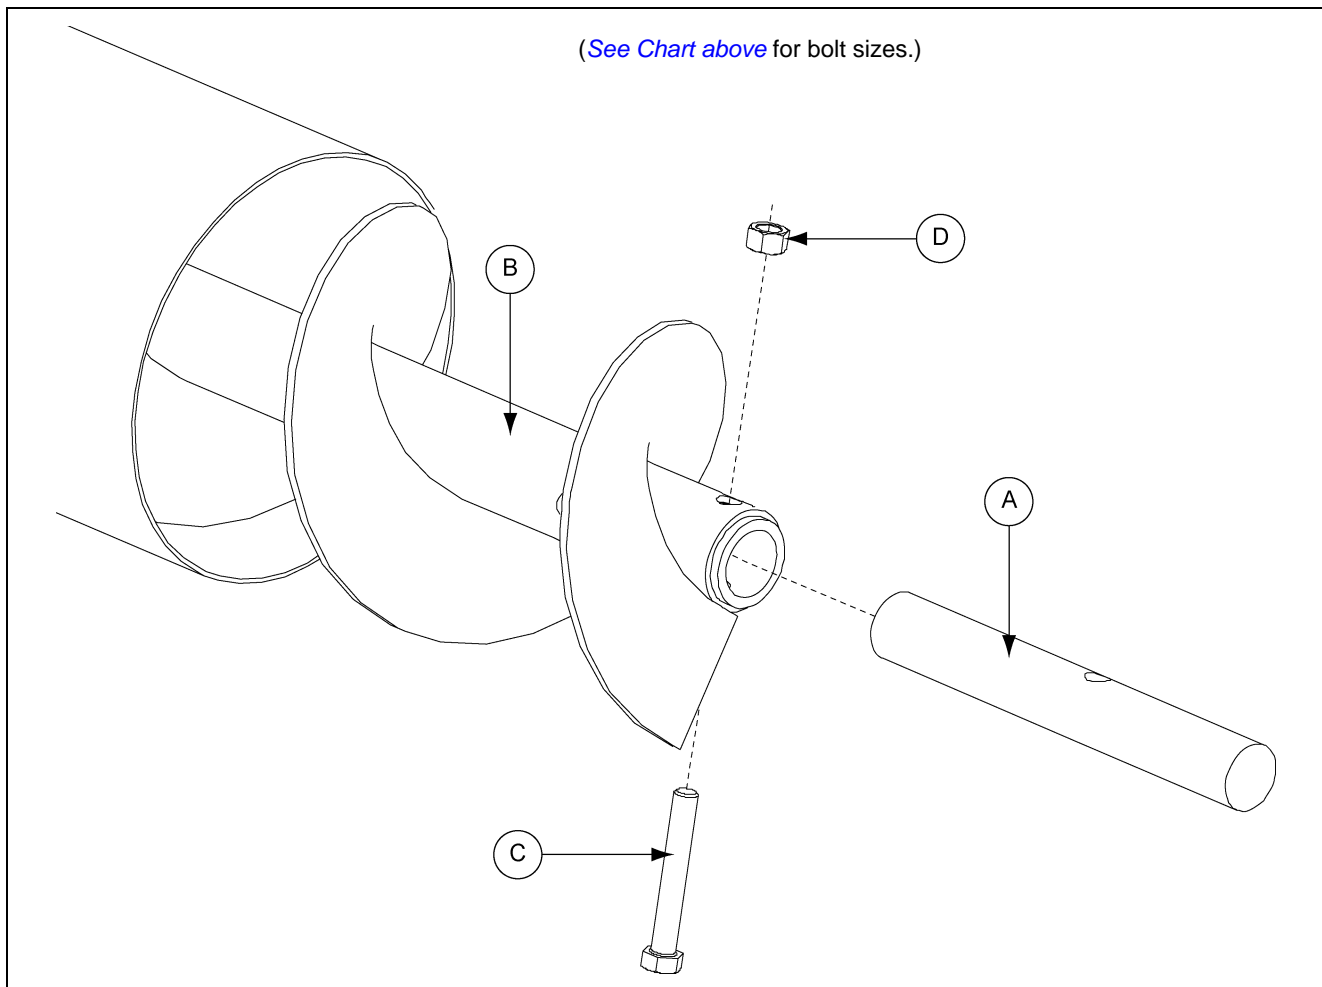

Figure 4P
5. Insert the intake shaft (A) into the flight (B) and connect with proper grade 8 bolt (C) and stover nut (D). *(See Chart below and Figure 4P.)*